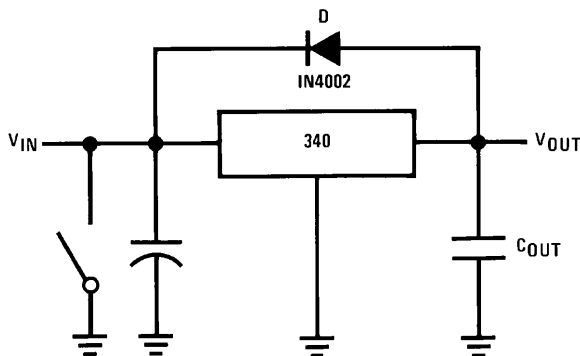

FIGURE 1. Input Short
**Shorting the Regulator Input:** When using large capacitors at the output of these regulators, a protection diode connected input to output (*Figure 1*) may be required if the input is shorted to ground. Without the protection diode, an input
short will cause the input to rapidly approach ground potential, while the output remains near the initial  $V_{OUT}$  because of the stored charge in the large output capacitor. The capacitor will then discharge through a large internal input to output diode and parasitic transistors. If the energy released by the capacitor is large enough, this diode, low current metal and the regulator will be destroyed. The fast diode in *Figure 1* will shunt most of the capacitors discharge current around the regulator. Generally no protection diode is required for values of output capacitance  $\leq 10 \mu F$ .